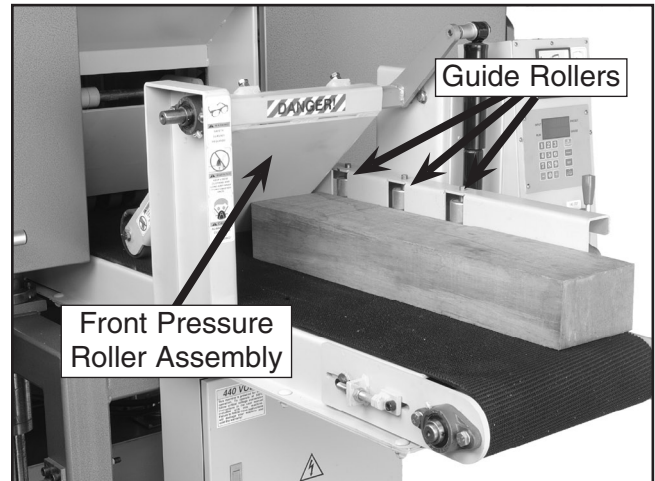

Figure 23. Feeding the workpiece through the bandsaw.
9. Begin feeding the workpiece under the front pressure rollers with the jointed edge against the guide rollers, as shown in **Figure 23**.